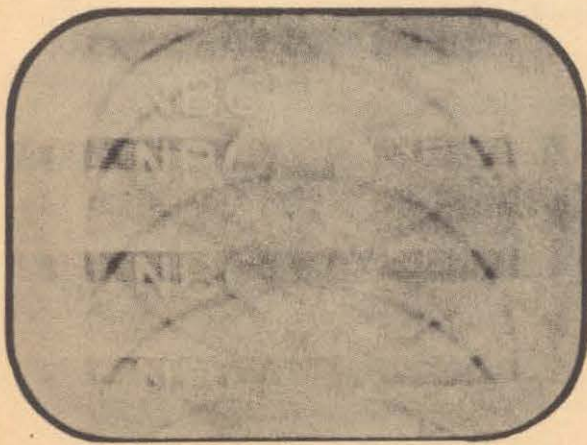

Fig. 11 Vertical Hold Control Misadjusted
**VERTICAL HOLD ADJUSTMENT.** Figure 11 shows the effect of misadjustment of the vertical hold control. The effects on the picture are similar to those discussed for "horizontal Hold" except that, in this case, the motion of the image, before lock-in occurs, is from the bottom to the top of the picture rather than from left to right.